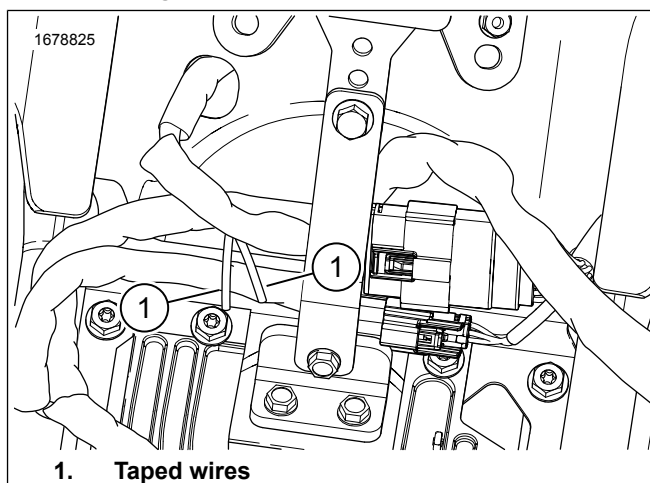

Figure 4. Battery Box Wires
1. See Figure 4. Locate taped white/pink and white/brown wires in battery box area. Remove tape from wires.